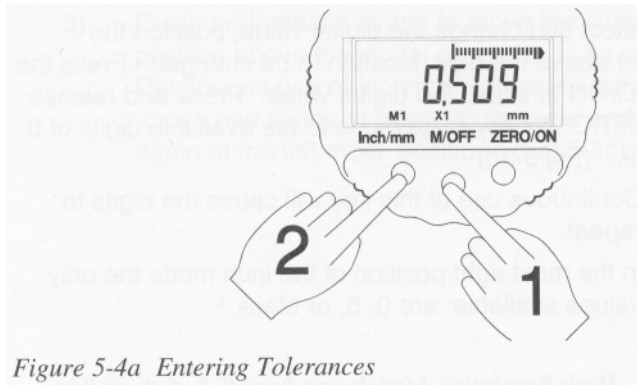

Figure 5-4a Entering Tolerances
- 1) Press and hold M/OFF(1) - then depress and release inch/mm(2) until the M1 icon is displayed. (Fig.5-4a)